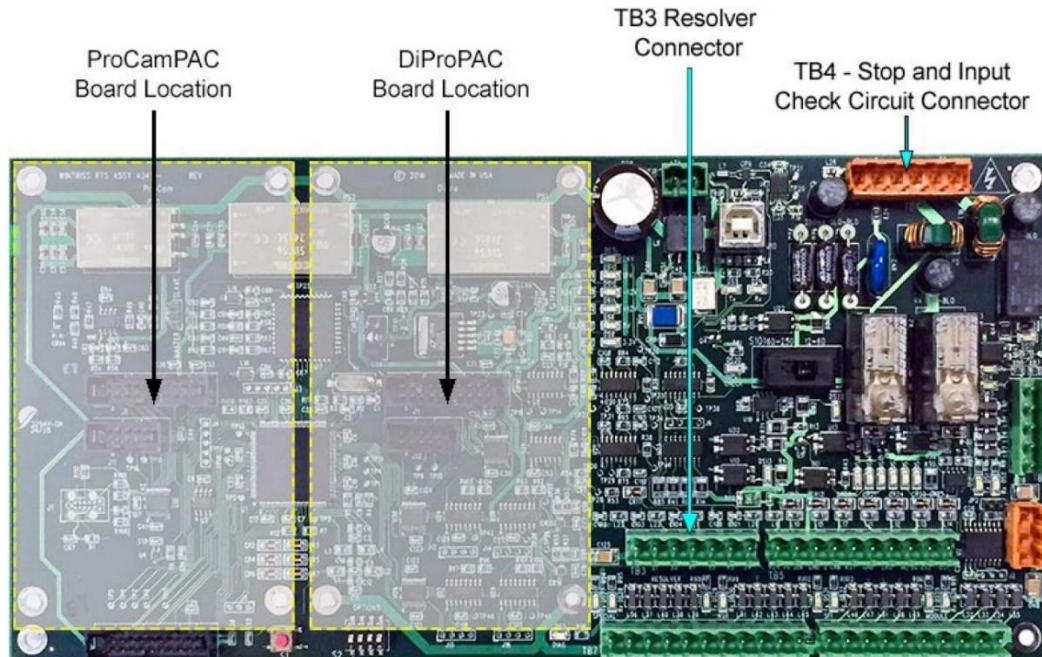

Figure 2-11. SmartPAC PRO Main (RTS) Board Showing Location of Option Module Boards, and TB3 and TB4
2. Locate connector TB4 on the SmartPAC PRO board (see Figure 2-11, page 65) and unplug it from its socket. Connect the wires for the stop and input check circuits to TB4 pin locations, as shown in Table 2-2 and wiring diagram Figure 4 at the end of the manual.
Install these boards in the locations shown in Figure 2-11, below. If you install a board in the wrong location, SmartPAC PRO will not recognize that the option is installed.
3. On the SmartPAC PRO board, locate the connector in which the new board should be installed (see Figure 2-11).